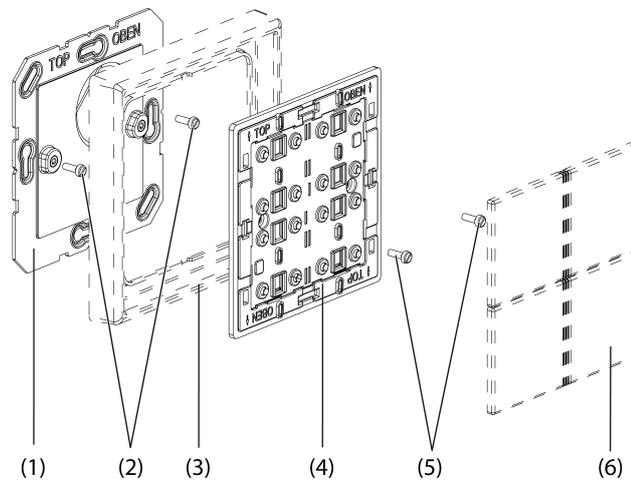

Figure 1: 4-gang radio wall transmitter module
- Screw or glue the base plate (1) to an even surface. The **TOP/OBEN** label has to be at the top.
- Attach design-frame (3) to the base plate.
- Screw wall transmitter module (4) to base plate.
- Snap covers (6) on (Figure 1).
- Carefully remove covers (6) from wall transmitter (Figure 1).
- Unscrew wall transmitter from the base plate (1)(Figure 1).